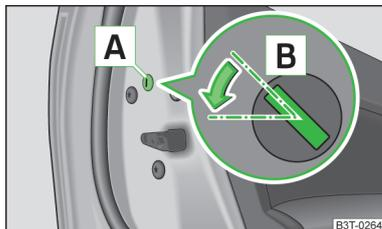

Fig. 193
- Remove the cover **A** » Fig. 193.